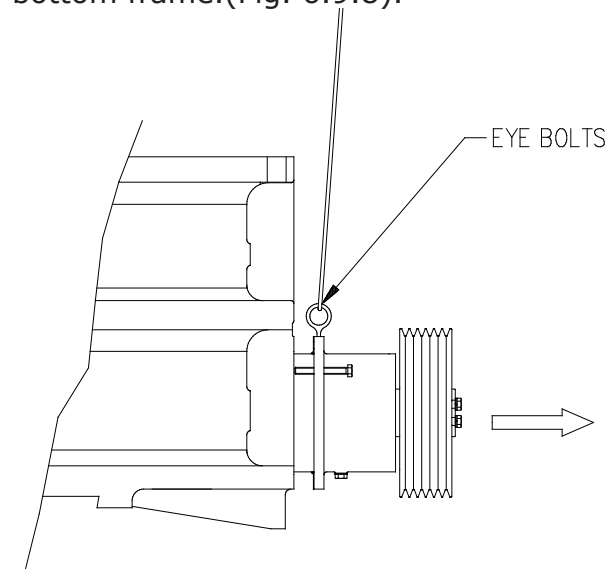

Fig. 6.9.8
5. Once the shaft assembly is extracted far enough for the locating diameters to disengage, suspend the assembly using eye-bolts and slings. Whilst keeping the assembly level and stable, remove from bottom frame.(Fig. 6.9.8).